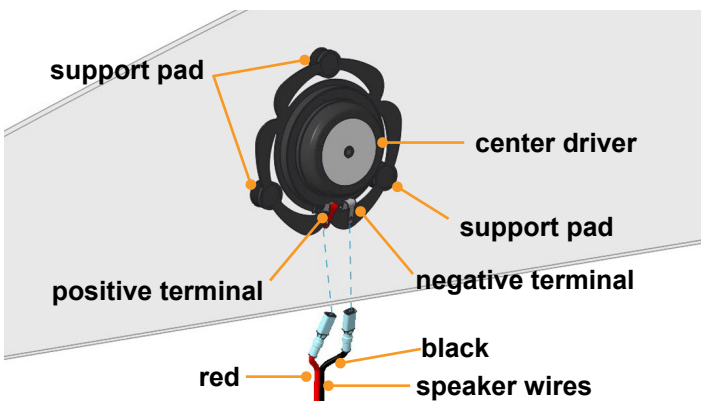

Fig.4
6. After the Exciter is in place, firmly press and hold down on each of the three support pad (Fig.4) areas for one minute to assure good adhesion to the glass.
7. Press down on the center section (Fig.4) of the Exciter for one minute to assure good adhesion of the driver to the glass.
8. Connect speaker wires to the speaker. The red terminal is positive and the silver terminal is negative (Fig.4).